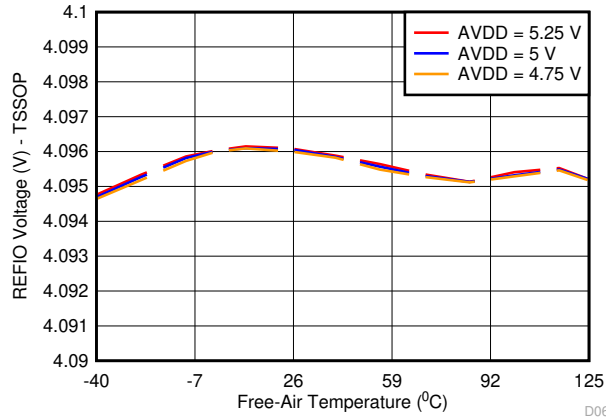

图 7-10. REFIO Voltage Variation Across AVDD and Temperature (PW Package)
The internal reference is also temperature compensated to provide excellent temperature drift over an extended industrial temperature range of -40°C to $+125^{\circ}\text{C}$. 图 7-10 and 图 7-11 show the variation of the internal reference voltage across temperature for different values of the AVDD supply voltage. The temperature drift of the internal reference is also a function of the package type. 图 7-12 and 图 7-13 show histogram distribution of the reference voltage drift for the TSSOP (PW) and WQFN (RUM) packages, respectively.